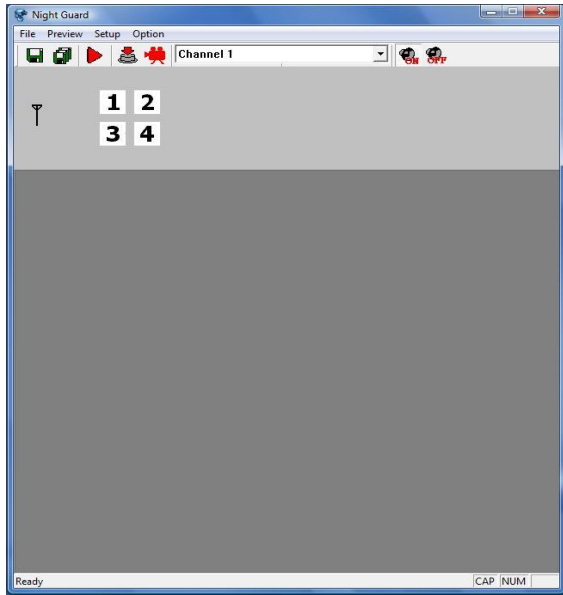

Fig. 8
- § A box will open and it will show 4 cameras. Choose the number of the channel you wish to view (Fig. 8).